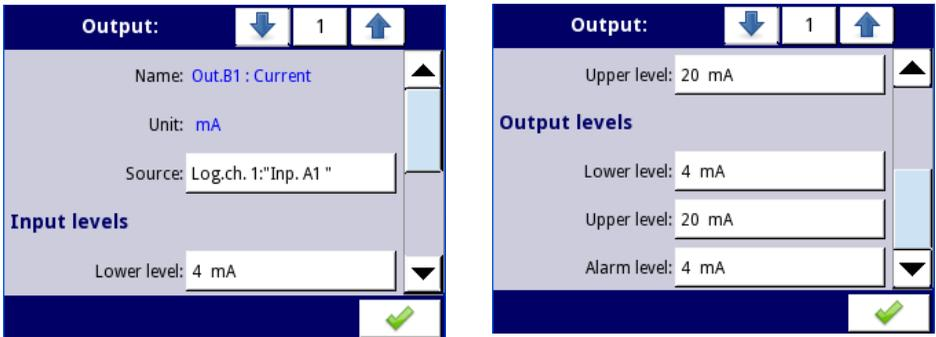

Fig. 7.93. Parameters of the **Passive current output**
- **Lower level** and **Upper level** - these parameters limit the range of the output signal, below this range the input signal will have a **Lower level** value and above this range the signal will have an **Upper level** value, the relationship between Lower and Upper levels is linear and it is limited by a defined range, see **Fig. 7.93**,